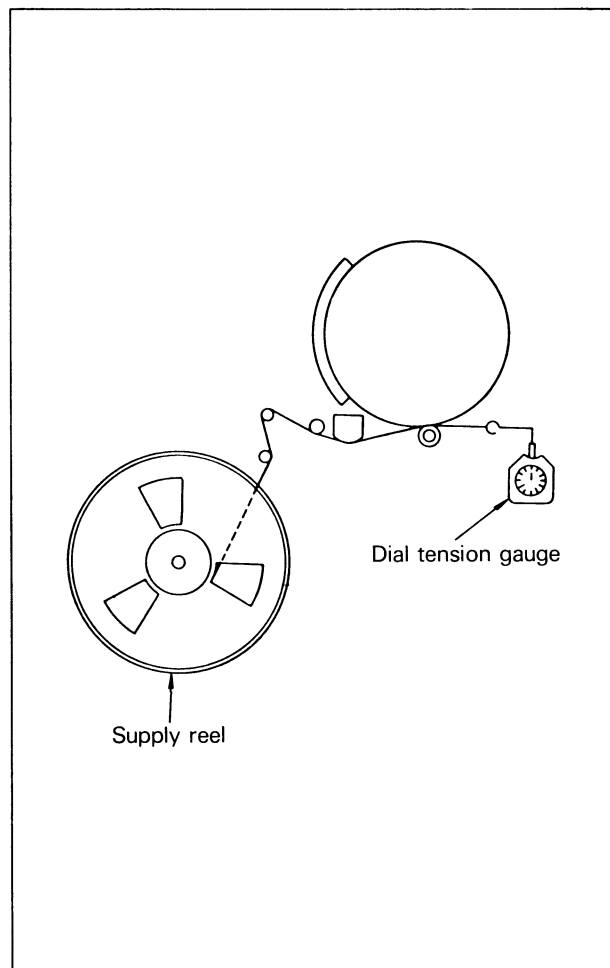

Fig. 6-12.
2. Thread the tape as shown in Fig. 6-12 connecting the free end of the tape to a dial tension gauge. Ideally, the gauge will have a full scale reading of 100 to 150 grams. (3-6oz)